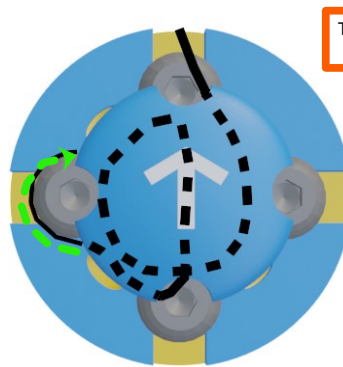

Figure 5.59: Extension end: Rotation around the bolt
2. Pull the tendon from the lower hole (until the finger is straight) and rotate it around the left bolt with a clockwise rotation around it (figure 5.59).